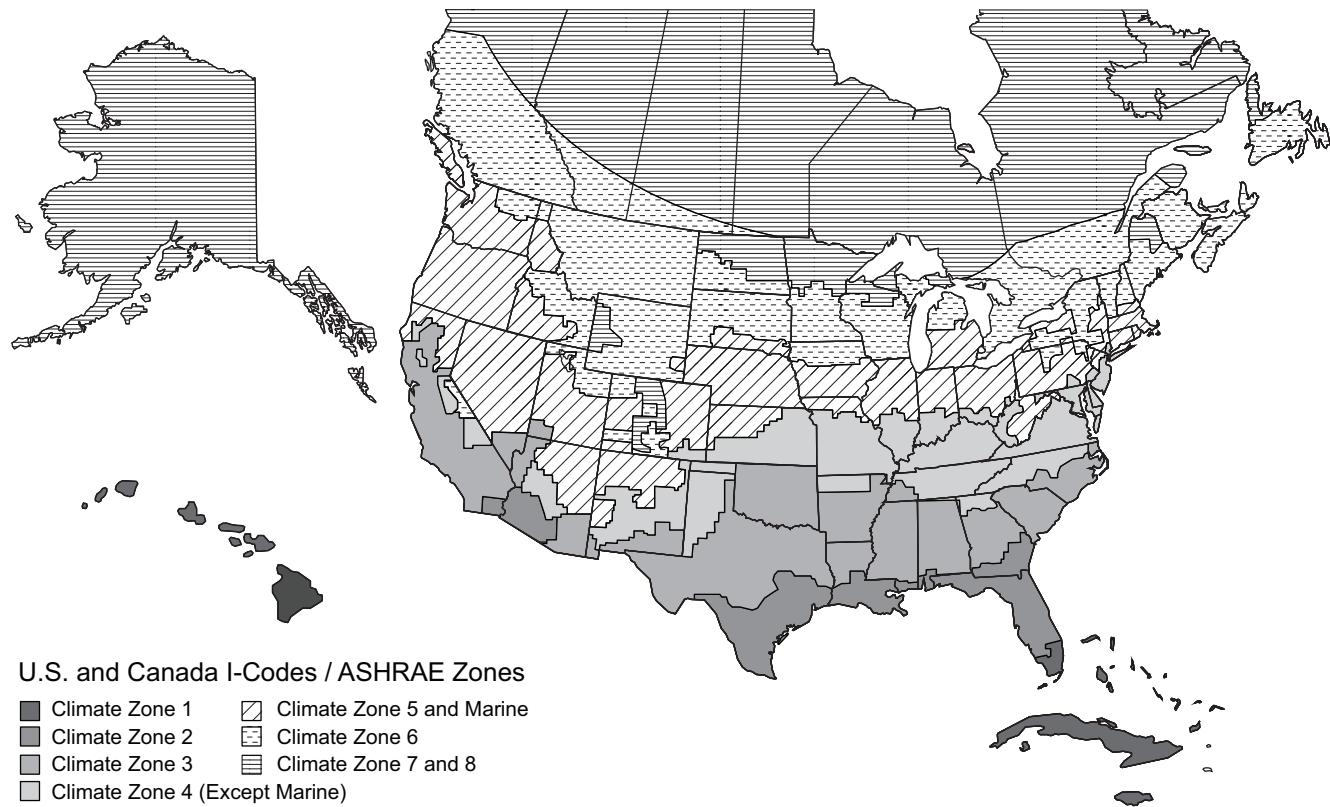

Fig. 74 — U.S. and Canada Climate Zones
- a. See Fig. 74 for map of U.S. and Canada climate zones.